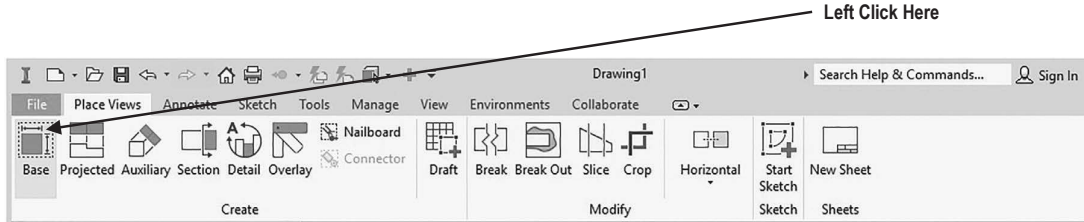

Figure 12
16. Move the cursor to the upper left portion of the screen and left click on **Base** as shown in Figure 12.